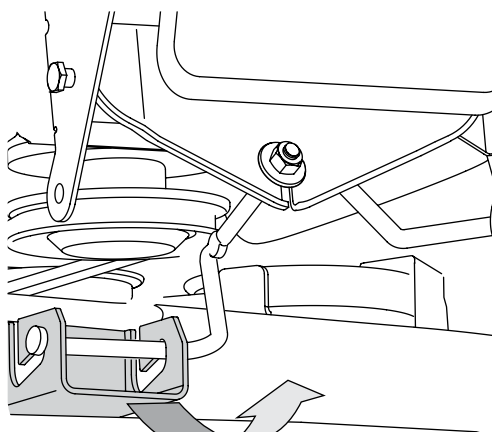

Figure 4-13
- On **38" decks**, gently slide the cutting deck toward the front of the tractor carefully guiding the hooks on the deck off of the deck stabilizer rod. See Figure 4-13.